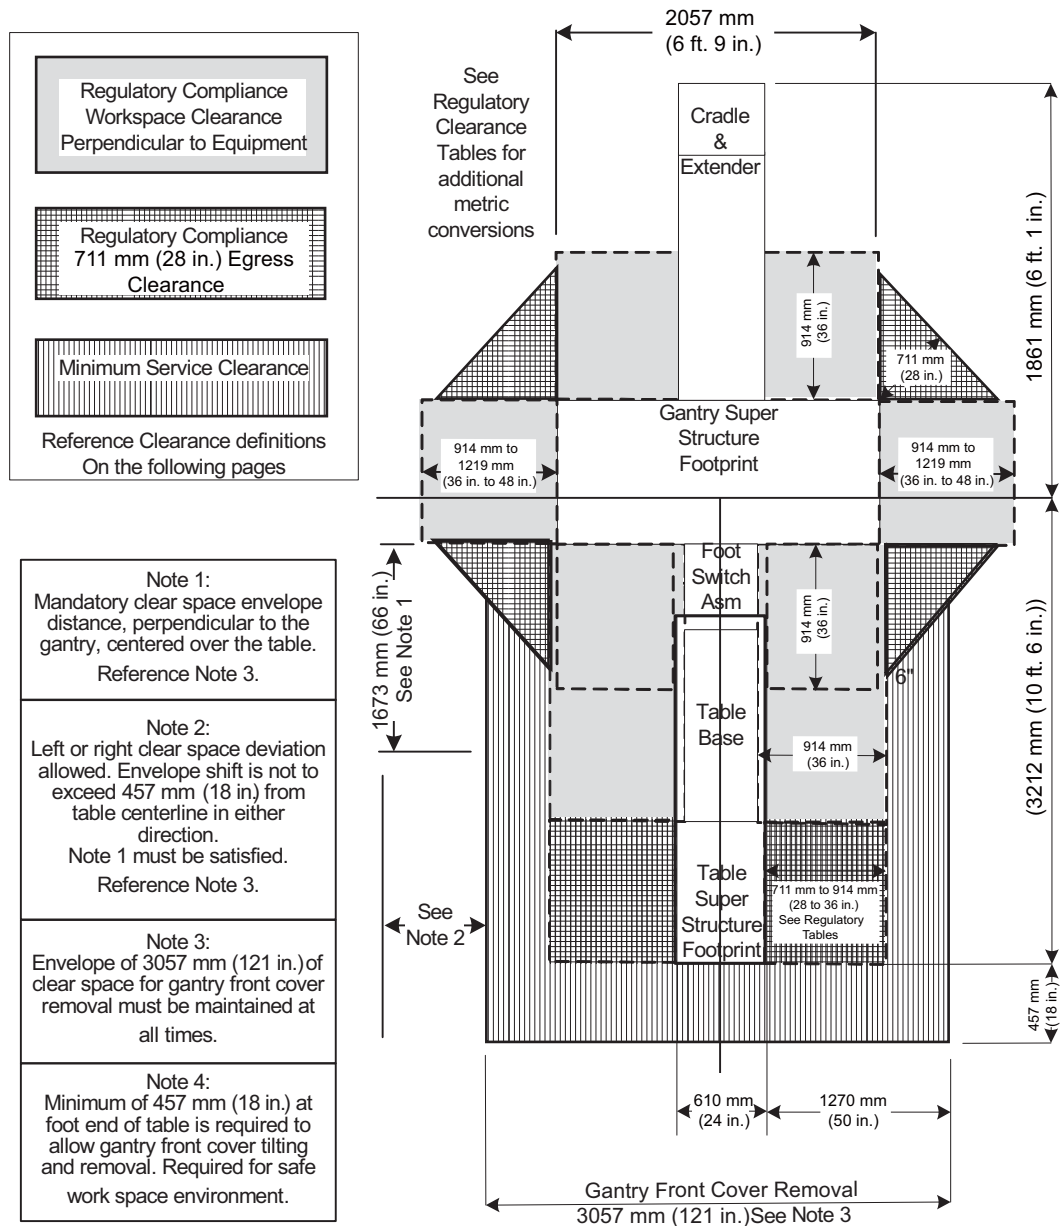

Figure 4-2 Minimum Service Clearance
- Gantry front cover removal requires the use of the “Tilting Cover Dollies”. These dollies allow the Service Engineer to separate the cover from the gantry, tilt the cover 90 degrees, roll the cover to the foot end of the table, and then tilt the cover an additional 90 degrees such that the front cover is now upside down relative to the normal system mounted condition. Figure 4-2 illustrates the minimum clear space required to achieve this operation. The gantry front cover must be removed to a position that satisfies the minimum regulatory clearances.
- The gantry rear cover, with service dollies installed, requires a width 2244 mm (88 in.) and a depth of 610 mm (24 in.) of clearance for removal. Sufficient space must be calculated to move the cover either straight back or to a side of the table to satisfy the minimum regulatory clearance shown in Figure 4-2. This means the rear cover cannot violate the workspace on the rear or either side of the gantry.